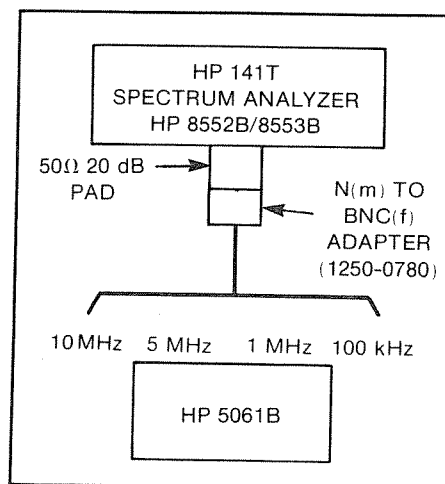

Figure 3-9. Harmonic and Non-Harmonic Distortion Test Setup
- a. Connect equipment as shown in *Figure 3-9*.